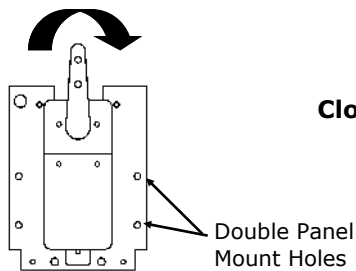
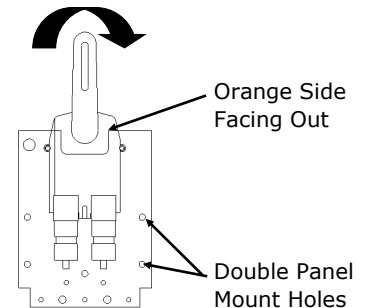

Figure 9
Figure 10
- 1) Position the shutter motor on the bracket as shown in Figure 9 or Figure 10, depending on shutter motor model.
- 3) Using the motor bracket as a guide, drill through the center flange to use (2) 1/4" bolts to mount the bracket.
- 5) Affix (1) small S-hook to each tie bar in the top most hole.
- 9) If using return springs, drill (1) 1/8" hole, 1" to the outside of each tie bar on the shutter frame.